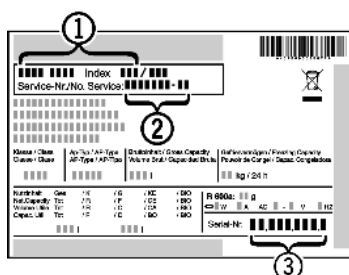

Fig. 19
- ▶ Read the appliance designation *Fig. 19 (1)*, service No. *Fig. 19 (2)* and serial No. *Fig. 19 (3)* off the type plate located inside the appliance on the left-hand side.
- ▶ Notify the customer service, specifying the fault, appliance designation *Fig. 19 (1)*, service No. *Fig. 19 (2)* and serial No. *Fig. 19 (3)*.